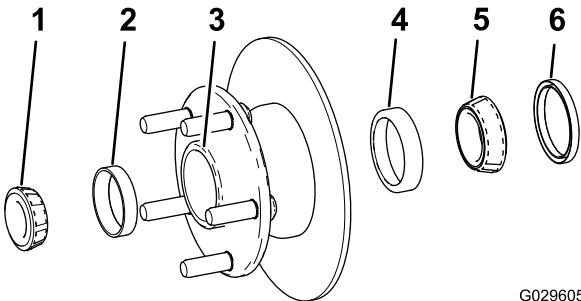

Figure 32
1. Remove the outboard bearing and bearing race from the hub (Figure 32).
2. Remove the seal, inboard bearing and bearing race from the hub (Figure 32).
5. Clean the cavity of the hub of all grease, dirt, and debris (Figure 32).
7. Install the inboard and outboard bearing races into the hub (Figure 32).
8. Fill the cavity of hub 50 to 80% full of the specified grease (Figure 32).
9. Assemble the inboard bearing onto the race at the inboard side of the hub and install the seal (Figure 32).